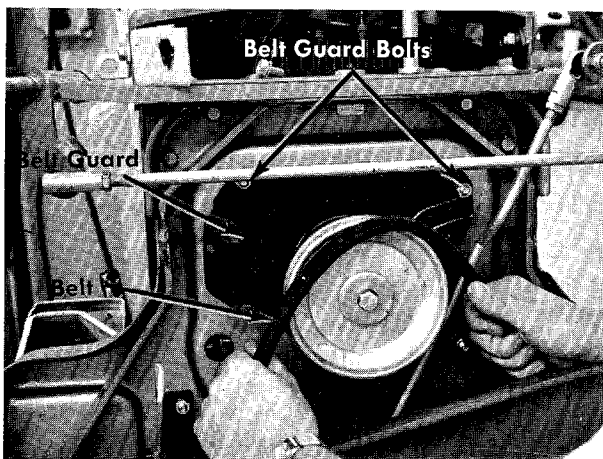

FIGURE 24. REMOVING MOWER BELT
Step 3. Unhook the belt from the engine pulley. See figure 24.
- Step 3. Unhook the belt from the engine pulley. See figure 24.